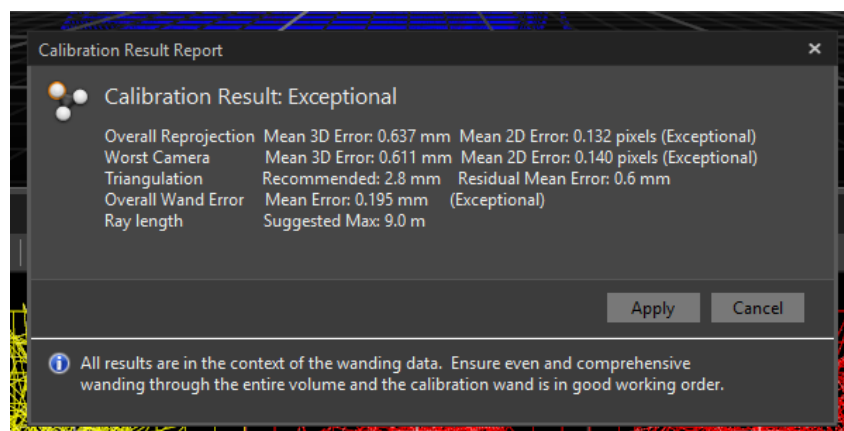

Figure 5: Calibration result (Motive 2.0.1)
- After a brief moment, a prompt with the calibration results will be displayed (Figure 5). **If the result is not 'Very High' or 'Exceptional', it is recommended to repeat the calibration process with more sample points.**